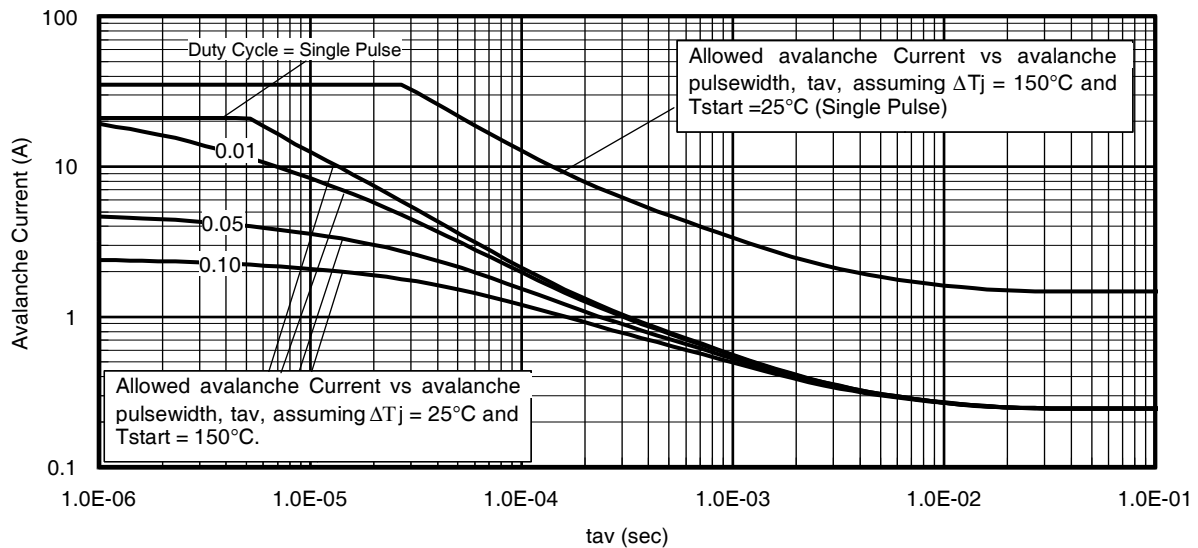

Fig 14. Typical Avalanche Current Vs. Pulsewidth
- ① Repetitive rating; pulse width limited by max. junction temperature.
- ② Starting $T_J = 25^\circ\text{C}$, $L = 0.51mH$, $R_G = 25\Omega$, $I_{AS} = 21A$.
- ③ Pulse width $\leq 400\mu s$; duty cycle $\leq 2\%$.
- ④ R_G is measured at T_J of approximately 90°C .
- ⑤ Limited by T_{Jmax} . See Figs. 14, 15, 17a, 17b for repetitive avalanche information
- ⑥ When mounted on 1" square PCB (FR-4 or G-10 Material). For recommended footprint and soldering techniques refer to application note #AN-994.
Notes on Repetitive Avalanche Curves , Figures 14, 15:
7. ΔT = Allowable rise in junction temperature, not to exceed T_{jmax} (assumed as 25°C in Figure 14, 15).